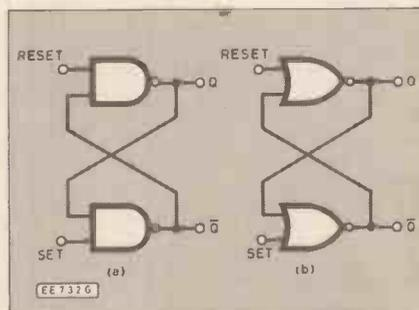

Fig. 3.8. (a) NAND gate RS bistable. (b) NOR gate RS bistable.
Simple bistable devices can be built using nothing more than NAND or NOR gates, as shown in Fig. 3.8(a) and Fig. 3.8(b), respectively. These arrangements have two inputs (labelled SET and RESET) and two complementary outputs (labelled Q and  $\bar{Q}$ ).
**Table 3.1: Truth table for the bistables of Fig. 3.8**